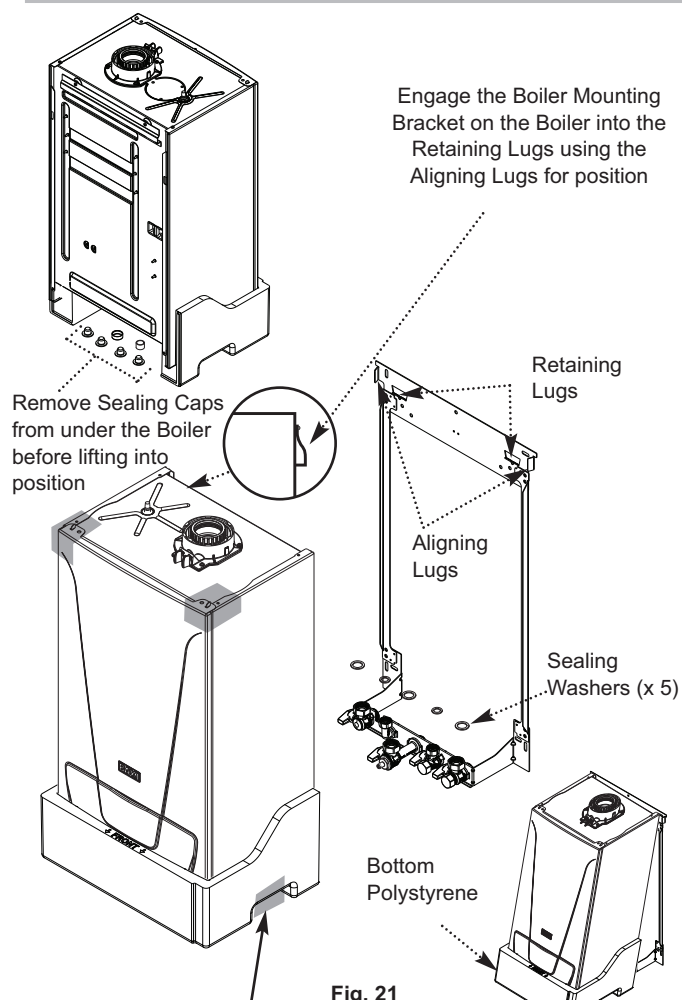

Fig. 21
2. Lift the boiler as indicated by the shaded areas. The boiler should be lifted by **TWO PEOPLE**. Engage the mounting bracket at the top rear of the boiler into the retaining lugs on the wall jig using the aligning lugs for position (Fig.21) (see 'Handling' section 2.3.1).